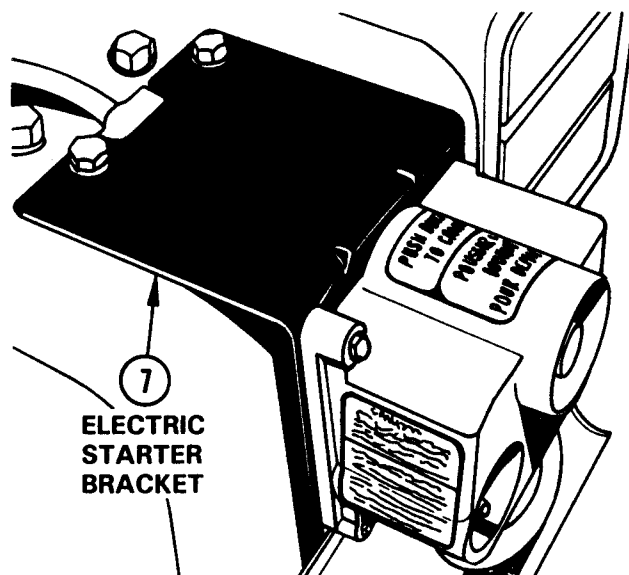

FIGURE 70
10. If an Electric Start Kit is installed on your Sno-thro, remove the starter switch-receptacle from the carburetor cover and reinstall it on the new Electric Starter Bracket (7) supplied with this kit. The starter switch-receptacle must be attached to the Bracket with the existing mounting hardware. The bracket mounts to the engine as shown with existing hardware. See Figure 70.